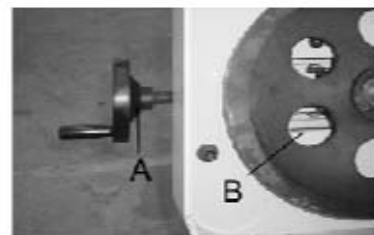

Fig.8
To tension the blade, lift up the left wheel cover and turn the blade tension handle (A) Fig. 8, clockwise. A pointer and tension scale (B) is located underneath the wheel. The scale is graduated to indicate blade tension of 20,000, 30,000 and 35,000 pounds per square inch (PSI). For carbon blades (similar to the one supplied with the machine) the blade should be tensioned at 20,000 PSI. For Bi-metal blades, the blade should be tensioned at 30,000 or 35,000 PSI. Always release blade tension at the end of each work day to prolong blade life.